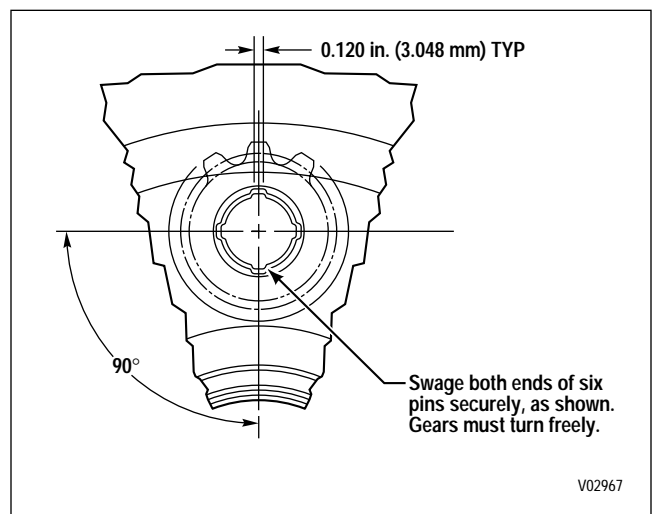

Figure 6-61. Typical Swaging Pattern on Pinion Pin
(6) Place a pinion pin onto the pilot end of the pin guide located below the press fixture ram. Press the pinion pin into the carrier until the installer contacts the carrier.
(7) Install the remaining pinion pins as instructed in Step (6).
(8) Remove the carrier assembly from the press fixture. Install swaging tool holder J 25587-17 into the opening of the press fixture bed. Install a swaging tool into the holder. Install another swaging tool into the press fixture ram. Lubricate both ends of the pinion pins with oil-soluble grease.
(9) Position the carrier assembly, rear upward (center carrier, front upward) on the press fixture. Use the proper support block to level the carrier while the lower swaging tool is supporting the lower end of one pinion pin.
(10) Apply sufficient pressure to the press fixture ram to firmly swage the ends of the pinion pin against the metal of the carrier. Figure 6-61 illustrates a typical swage pattern.